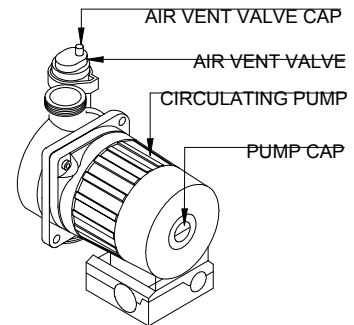

Fig. 1
- make sure the cap on the auto air vent valve is slightly loose to allow air to escape from the system (see fig. 1);
- undo the cap on the circulation pump to eliminate any eventual air locks (see fig. 1). It is a good idea to purge all radiators of air at this point too;
- turn selector switch 1 to the WINTER ❄ position (see fig. 1), after a few seconds the pump will come into action;